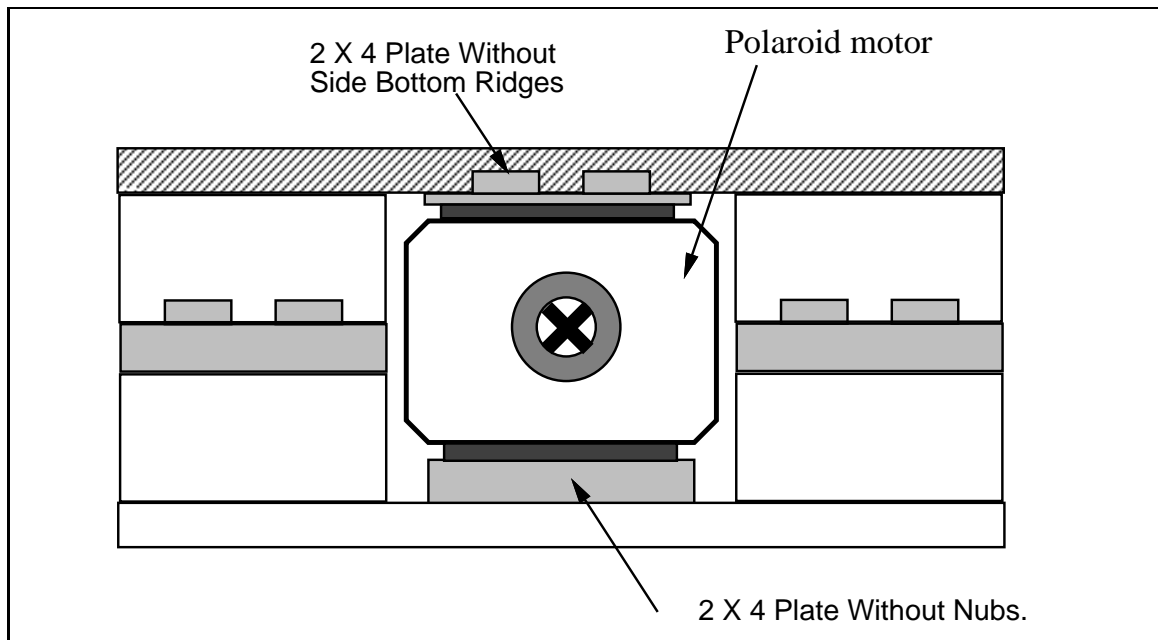

Figure 4.22: LEGO Jig for Mounting Polaroid Motor
- Make a second jig as shown in Figure 4.22 out of four 2×4 bricks, two 2×4 plates, and two 6×8 plates that sandwich the motor in place.